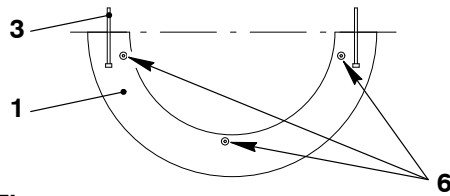

Fig. 5
- 6) Turn the crankshaft to move the gear wheel half (1, Fig. 5) to the bottom position.